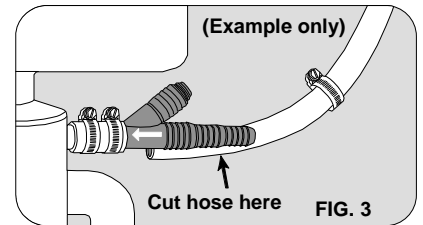

FIG. 3
The ET116-001 is designed to be used downstream of an approved airgap faucet and dishwasher airgap (when installed in conjunction with a dishwasher). Most dishwashers have a built-in check valve, but these often fail. Some States require the installation of a manufactured dishwasher airgap, while other states permit the drain hose to loop up from the dishwasher to the underside of the sink before descending to the disposal (See Fig. 3). Do not install a ET116-001 (with dishwasher) in the absence of one of these types of airgaps – use a ET109-001 or ET112-001.
7. Lift the tail of adapter slightly higher than horizontal, and position semi-taut hose behind it. Take a measurement on the hose against the selected barb. (See Fig. 3)
8. Cut off excess hose squarely with sharp knife. Reuse original spring or hose type clamp by sliding loosely over hose. (See Fig. 3)